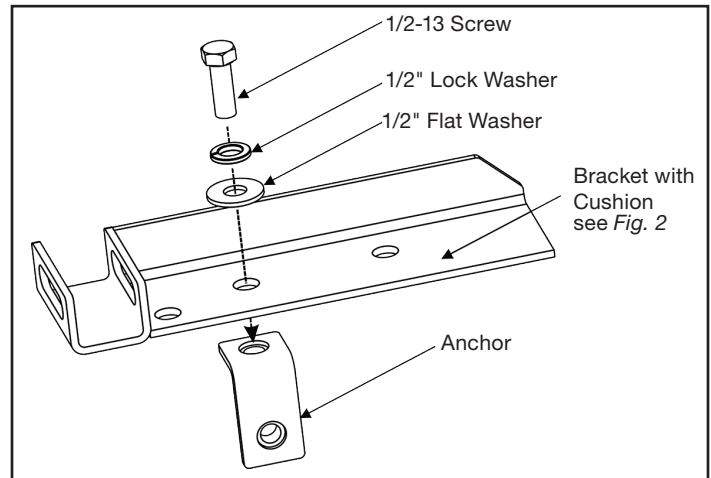

Fig. 3
3. Attach anchors to brackets using 1/2-13 x 4" fully threaded screws. Do not tighten screws. Make only 3-5 turns into anchor's short side nut. See Fig. 3